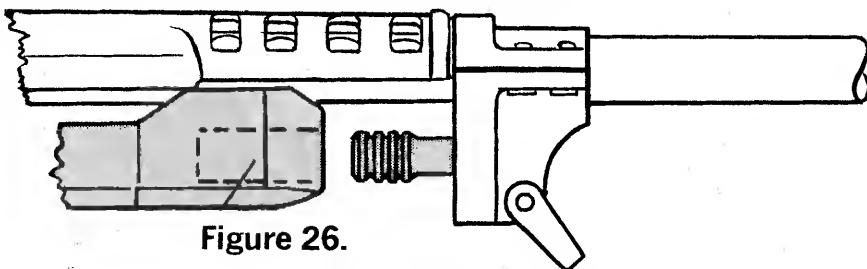

Figure 26.
3. Using powder solvent on a clean patch, remove powder residue from all components of the mechanism, including the gas piston and gas chamber in the front end of the slide, and the inside steel liner of the forearm. Dry and lightly lubricate all the parts noted above (see Figure 26).